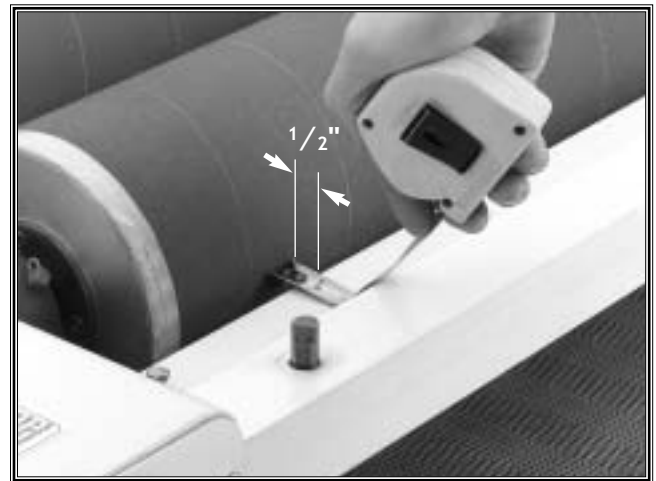

Figure 23. Front-drum to front-brace measurement.
- At either end and at the surface of the front drum, measure the distance between the drum and the front brace. It should be approximately $\frac{1}{2}$ ". See **Figure 23**.